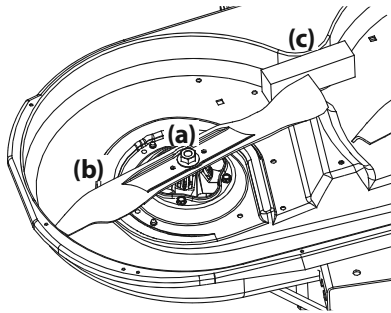

Figure 57
2. Use a  $1\frac{5}{16}$ " wrench to hold the hex nut on top of the spindle assembly when loosening the hex nut (a) securing the blade (b). A block of wood (c) may be placed between the deck housing and the cutting edge of the blade (b) to help in breaking loose the hex nut (a) securing the blade. See Figure 57.